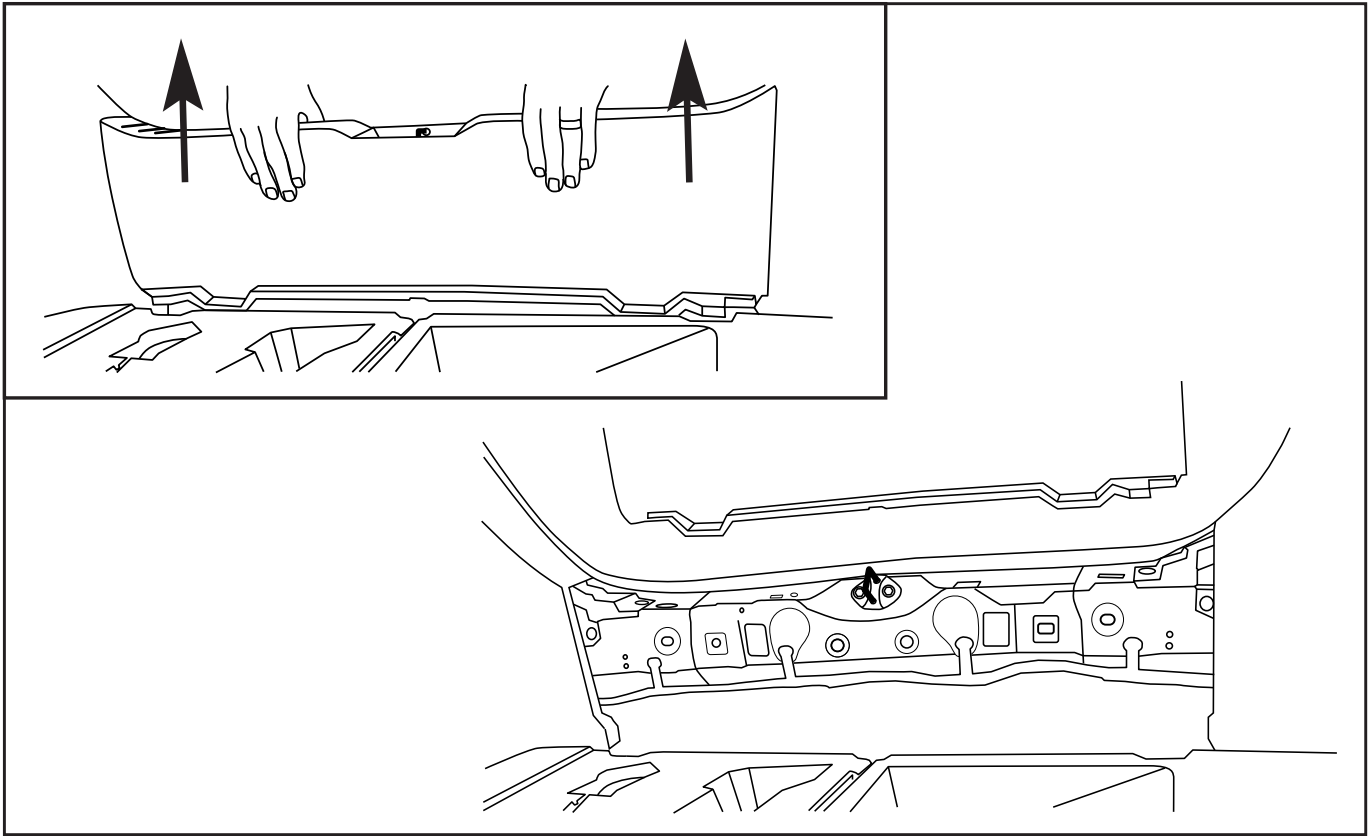

Fig. 4
5. Carefully remove rear trunk trim cover (Fig. 4).